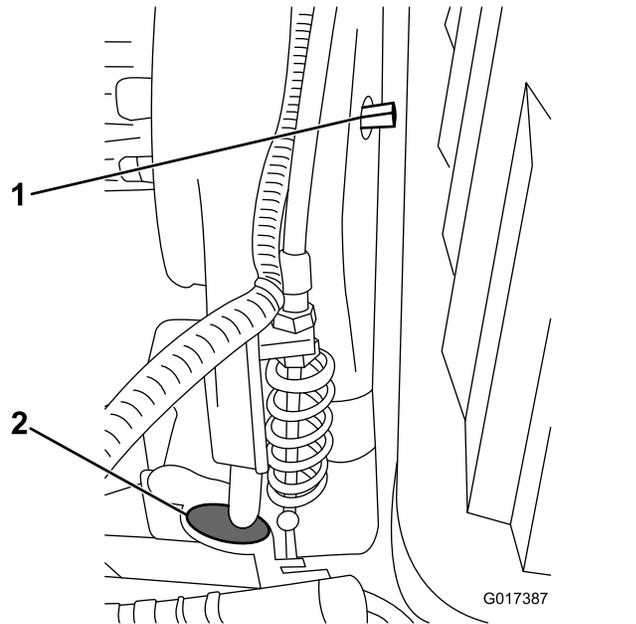
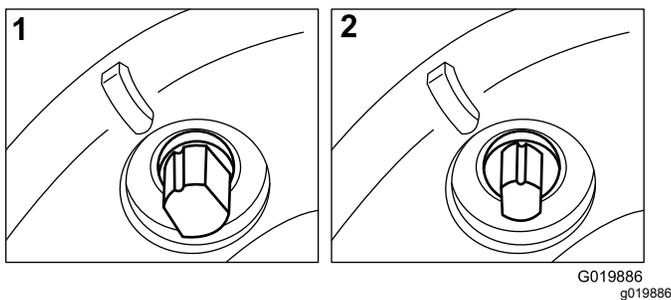

Figure 42
Figure 43
Remove the rubber plug (Figure 42) from the hole in the front of the transmission if you need to access the reel clutch.
The transmission belt is tensioned by a spring-loaded idler pulley. If you must engage or disengage the belt tension, use a 3/8-inch wrench to rotate the engage/disengage shaft (Figure 42) to the desired position. Rotating the shaft 1/4 turn (90°) clockwise disengages the idler from the belt (Figure 43).
- Note:** Remove the rubber plug (Figure 42) from the hole in the front of the transmission to view reel clutch.